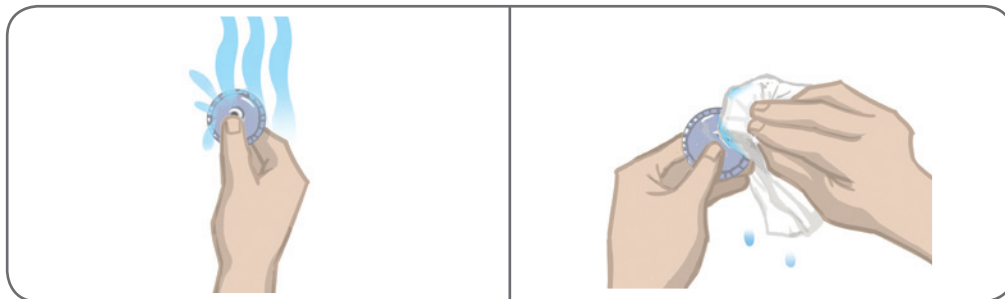

Figure 11-5: Wetting and Removing Excess Water
4. Wet the Round Cloth Electrodes with water until they are saturated. See Figure 11-5.
5. With a cloth, gently wipe or blot excess water off the back (side with the snap) of the electrodes. See Figure 11-5.